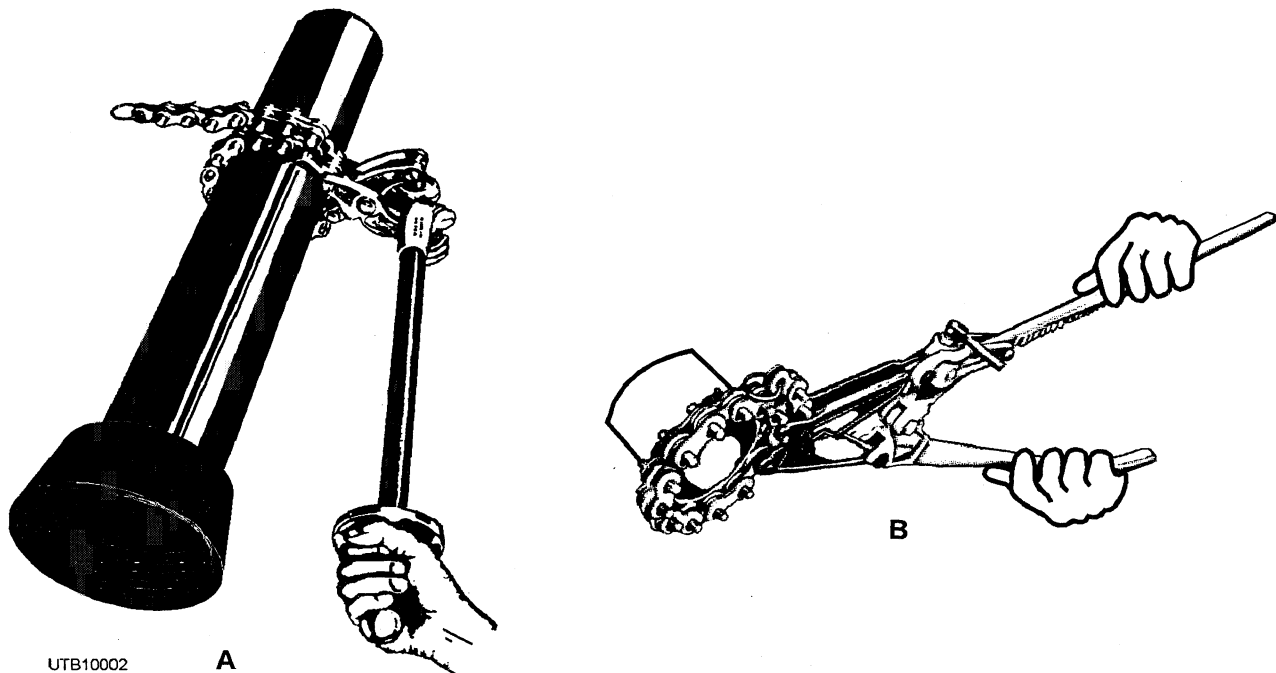

Figure 3-3.—Ratchet cutter and squeeze cutter.
**CUTTING.**—Before joining cast-iron pipe, you often have to cut the pipe to provide the desired length. Cast-iron soil pipe can be cut with an abrasive cutter, a band saw, a hydraulic manual snap or ratchet cutter (fig. 3-3, views A and B), or a hammer and chisel. The hammer and chisel method is slow and used only when other cutting tools are not available. Here is a step-by-step procedure for cutting with a hammer and chisel.